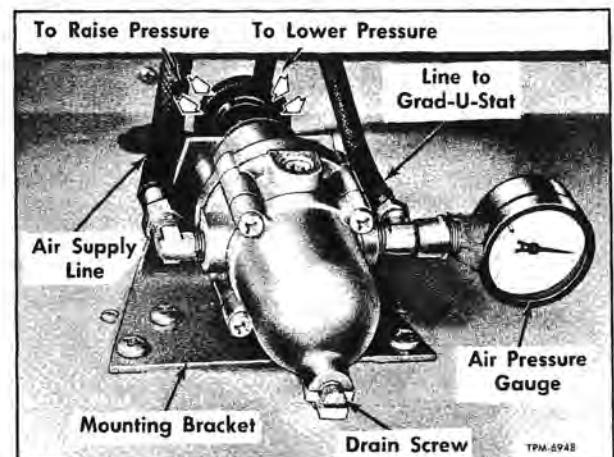

Figure 19—Air Pressure Regulator Valve Installed
1. Shut off air supply to Grad-U-Stat at pressure regulator valve located underneath coach at right of blower motors (fig. 19). Turn adjusting knob completely counterclockwise to shut off air.
1. Shut off air supply to Grad-U-Stat at regulator valve (fig. 19) by turning regulator knob completely counterclockwise.